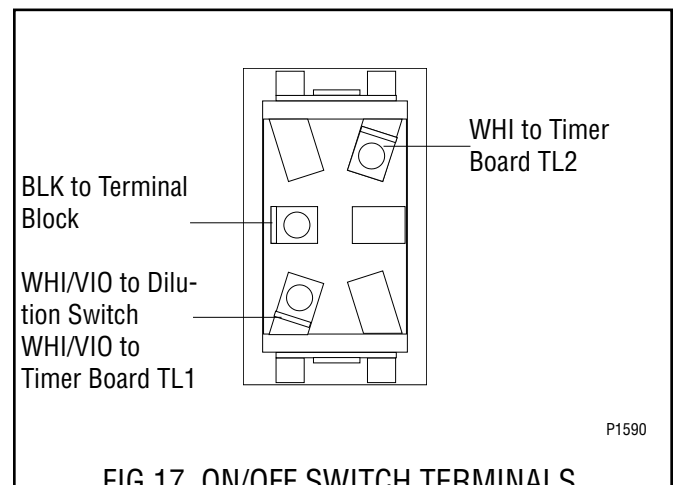

FIG. 17 ON/OFF SWITCH TERMINALS
4. Refer to FIG. 17 when reconnecting the wires.